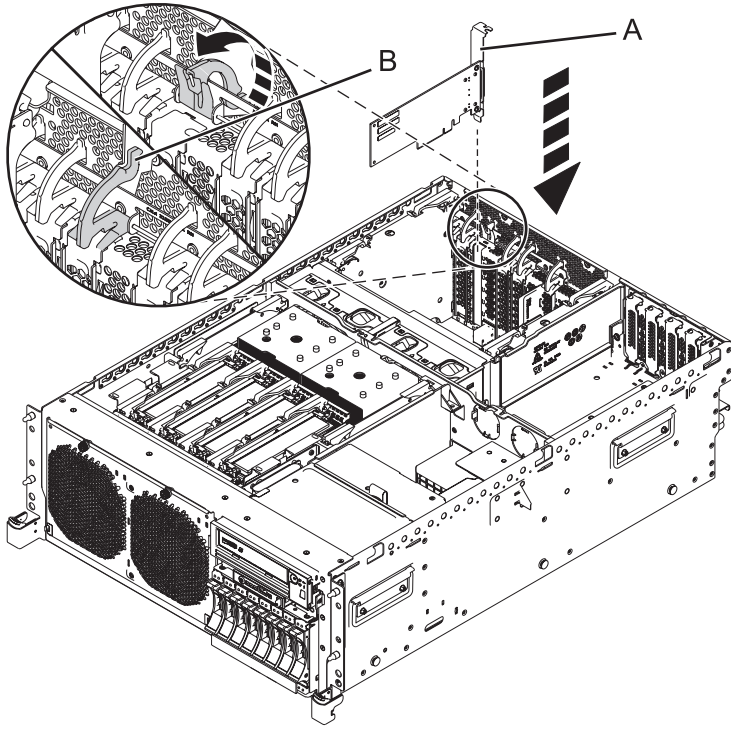
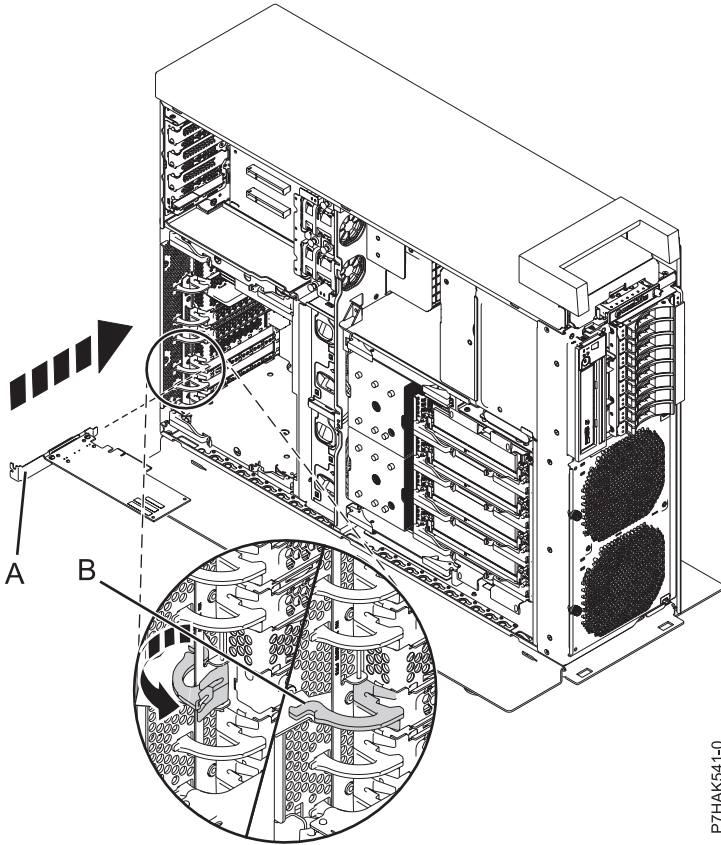

Figure 2. Installing a PCI adapter in a rack-mounted system unit
Figure 3. Installing a PCI adapter in a stand-alone system unit
15. Carefully grasp the adapter by its top edge or tailstock (**A**), and align the adapter with the expansion slot and its connector on the system backplane, as shown in Figure 2 on page 5.
17. Pull the adapter latch (**B**) back into place, as shown in Figure 2 on page 5 and Figure 3 on page 6.